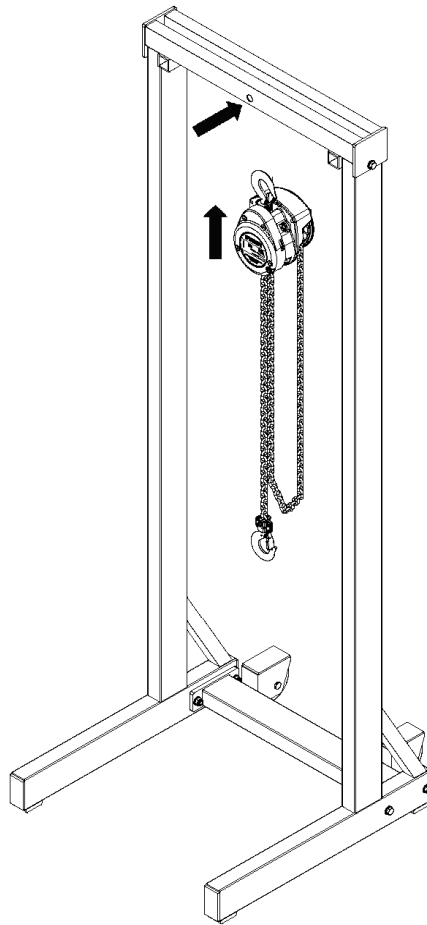

Fig. 2
7.2 Next, place the chain hoist into the mounting bolt as shown in Fig. 2.